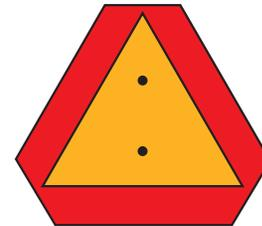

Figure 3-27: SMV Sign
9. Transport during daylight hours whenever possible. Always use tractor flashing warning lights, except where such use is prohibited by law. Make sure lights, reflectors and SMV emblem are clearly visible and operating. Remove any obstructions such as dirt, mud, stalks or residue that restricts view before transporting. **See Figure 3-27.**